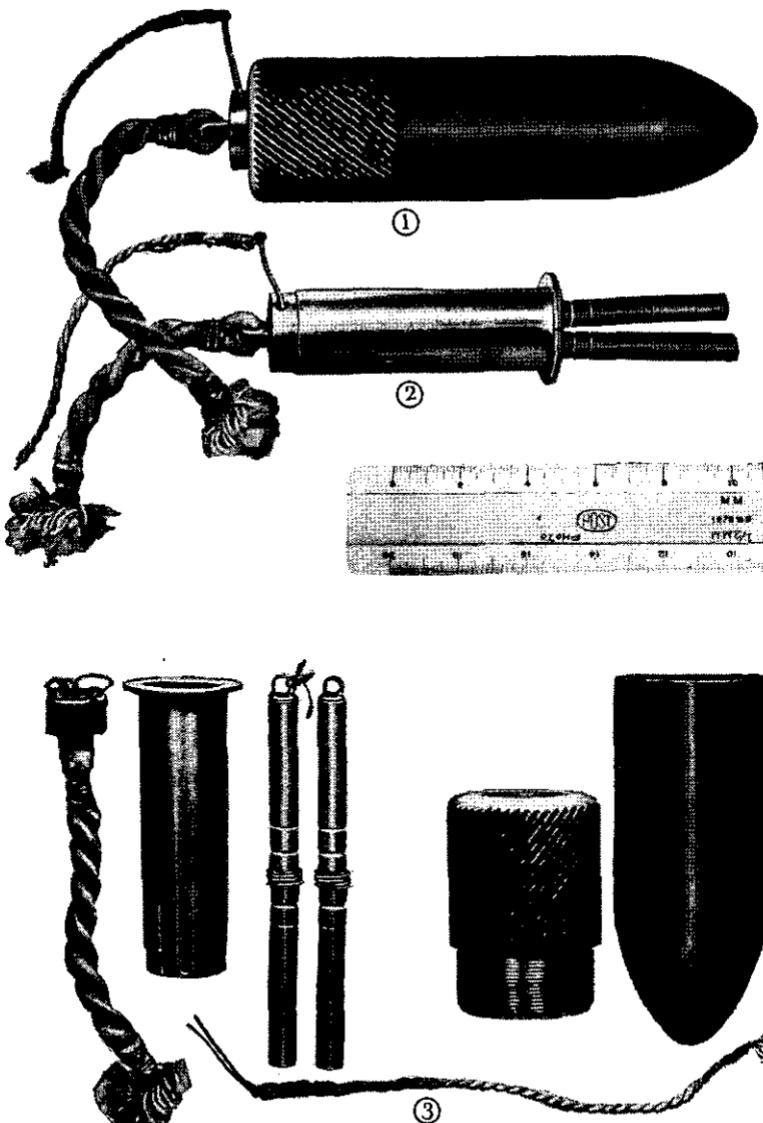

Figure 36.—Fuze used in Bangalore torpedo. (The fuze is shown
(1) *General.*—The fuze of the Bangalore torpedo (fig. 36) is shipped separately. It comprises a cylinder flanged at one end, with two delay tubes projecting beyond the flange, and a braided cord projecting from the other end (fig. 36 ②). For shipment, the delay tubes are covered by a cylinder closed to a point at one end. An open-ended cylinder having spiraled grooves on its surface (fig. 36 ③) is screwed into the pointed cylinder, the end of the fuze with the braided cord projecting through the open-ended cylinder as
shown in figure 36 ①. The pipe containing the explosive is capped at both ends, the caps being removed when the torpedo is made ready for use.